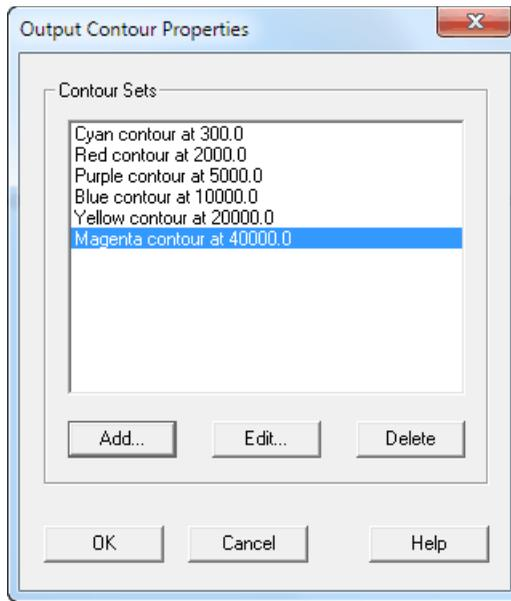

Figure 2.1 Setting fixed contour levels
- 3 Click **Add** to display the dialog box, Contour Set Properties, which is used to add the single value contours for the levels shown in Figure 2.1, and click **OK**.